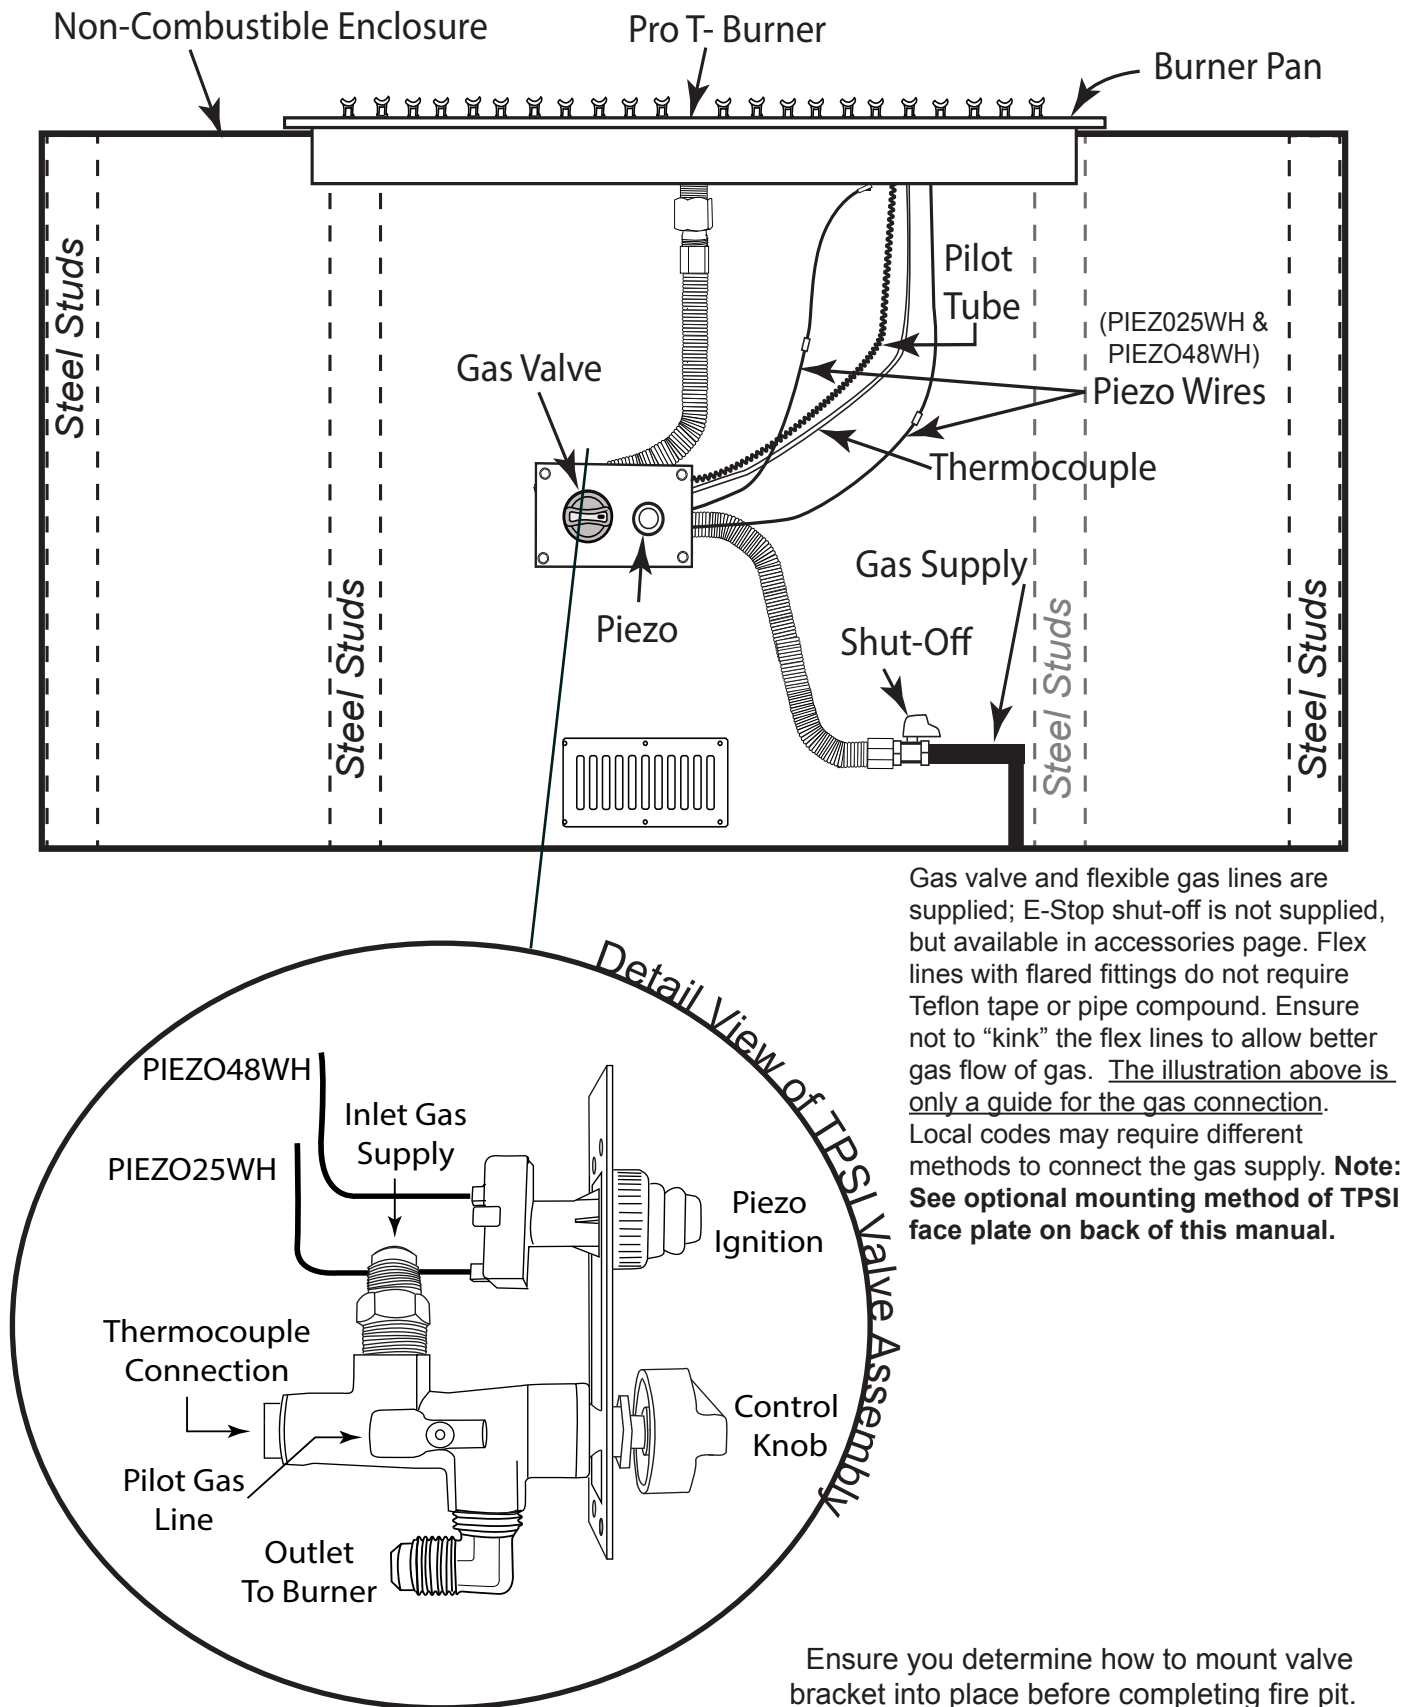

Fig. 7 Typical installation.
3. The primary gas shut-off (not supplied) will require a ½” male flared fitting to enable connection of the stainless steel flex gas line supplied with the fire pit (see Fig. 7 page 9).